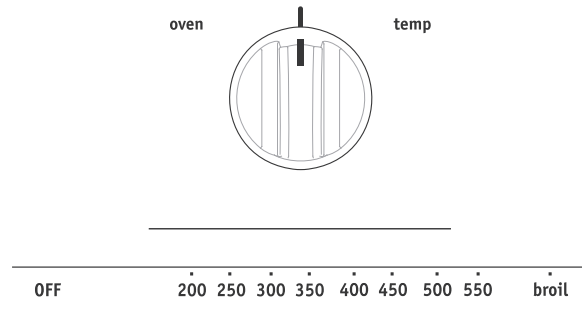

Figure 9: Oven temperature control
1. Turn the oven temp. control knob to the desired oven temperature (Figure 9).